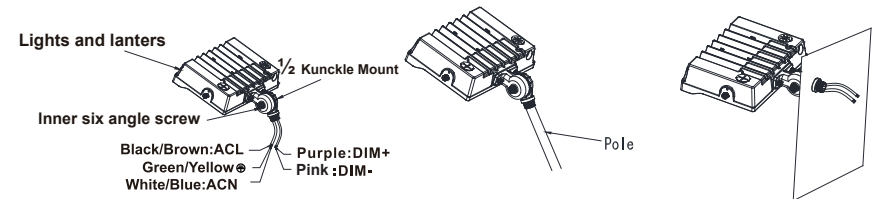
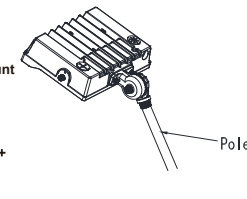

figure 1.3
figure 1.4
Step 2: Finish the wire connection according to the right mode of connection (pay attention to positive wire, negative wire, and ground wire), (figure 1.3).and then put wire into lamp pole;(figure 1.4)